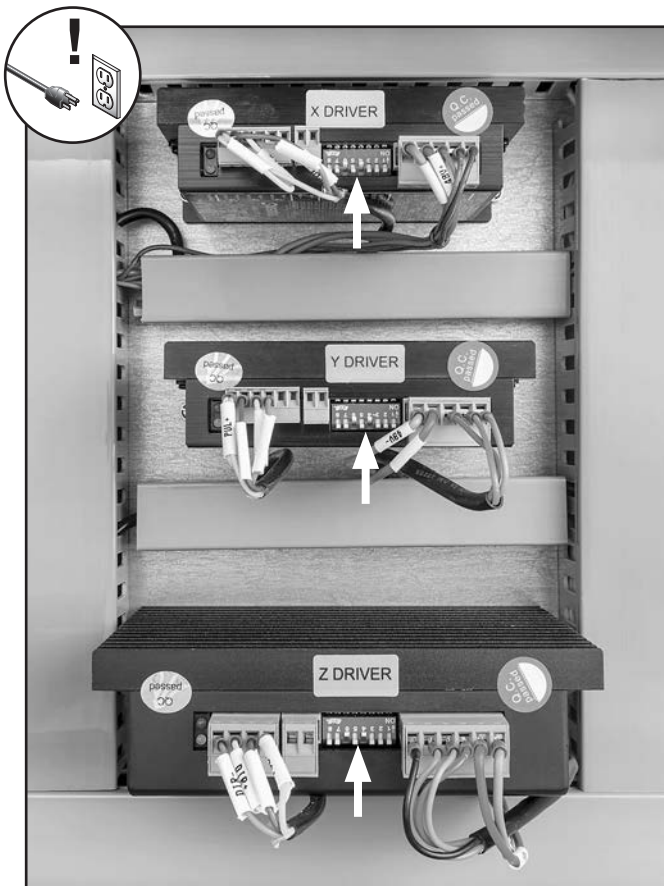

Figure 138. Stepper driver DIP switch locations.
2. Open electrical cabinet and locate (3) stepper driver DIP switches (see **Figure 138**).